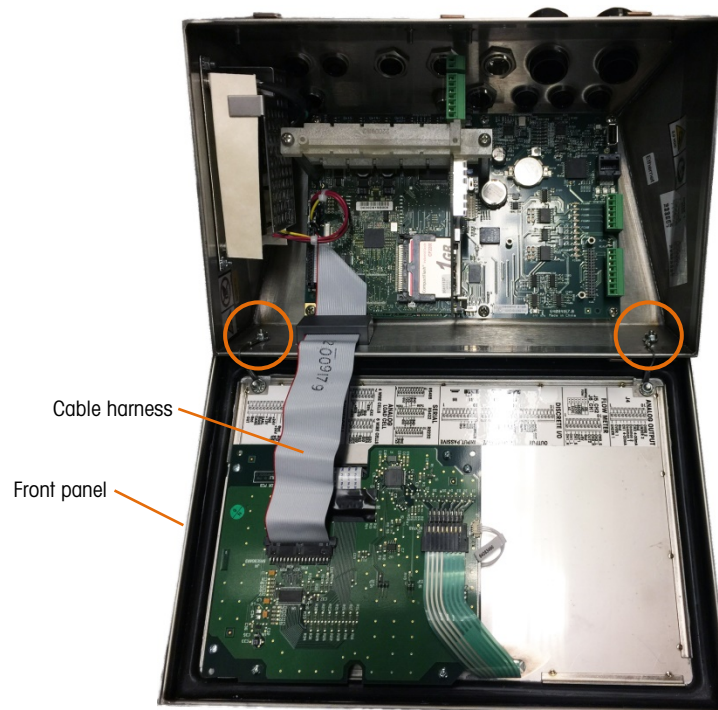

Figure 2-9: Harsh Enclosure Open, with Front Panel in Original Orientation
3. Loosen and remove the two nuts securing the two metal cables that hinge the front cover to the rear housing. These are circled in Figure 2-9.